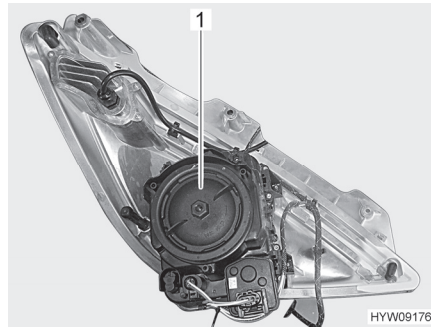

Fig. 218 Front headlight (rear side)
- Turn the housing cover (Fig. 218,1) in an anticlockwise direction and remove.
- Place the housing cover (Fig. 218,1) and tighten in a clockwise direction.